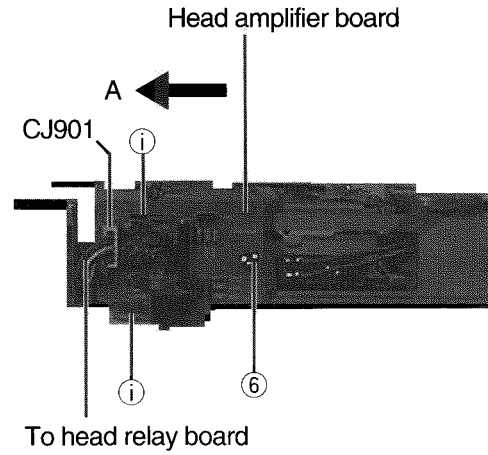

Fig . 14
■ Removing the Head Amplifier Board (See Fig. 14)
6. Remove the screw ⑥ retaining the head amplifier board.
7. Shift the two inter rocking sections ① securing the head amplifier board in the direction shown by the arrow "A" to remove the printed circuit board.